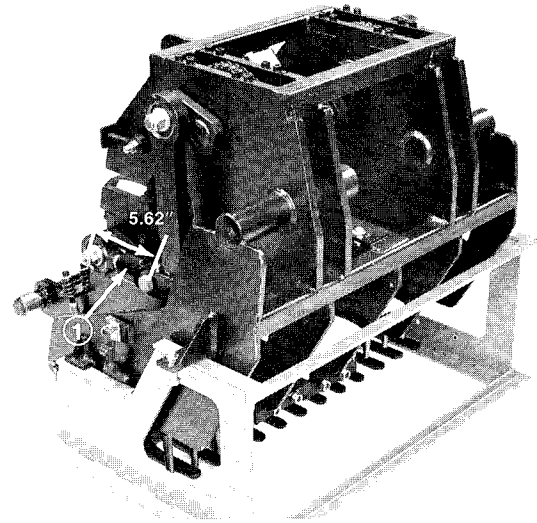

Figure 50
11. Pull traction unit straight away from coring head (Fig. 50).
If coring head damper assemblies are ever removed for servicing, make sure they are installed so distance between center of tine arm shoulder bolt and center of crank shaft is 5.56–5.62 inches (Fig. 50).